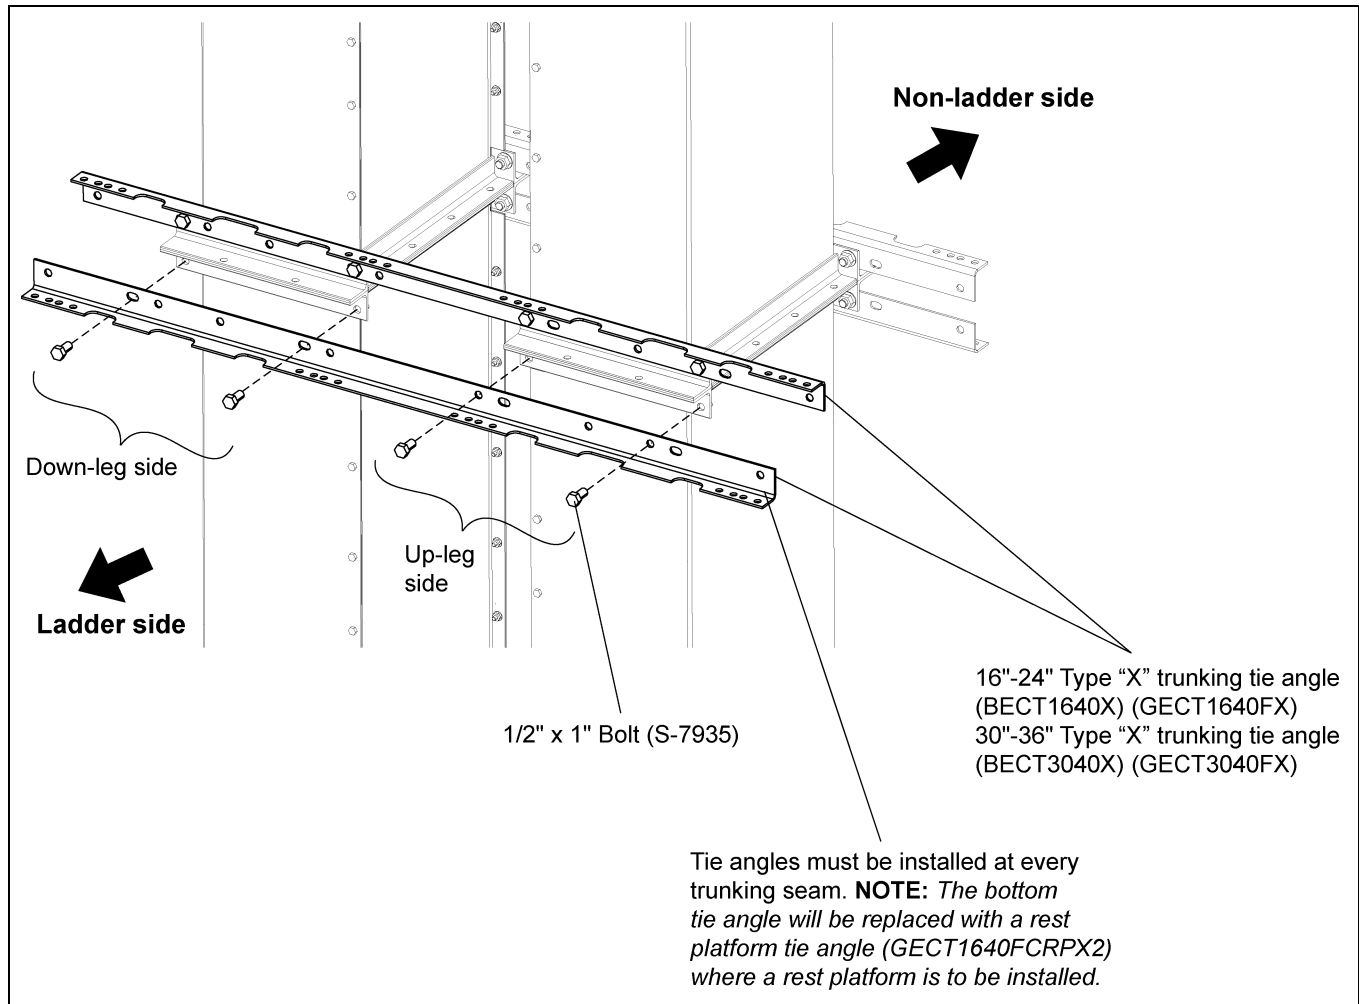

Figure 5A Tie Angle Installation Location
1. Tie angles must be mounted to each trunking seam on both the ladder and non-ladder side of the trunking. Use 1/2" x 1" bolts. See Figures 5A-5E on Pages 25-27 for the correct location of bolts for each elevator size.